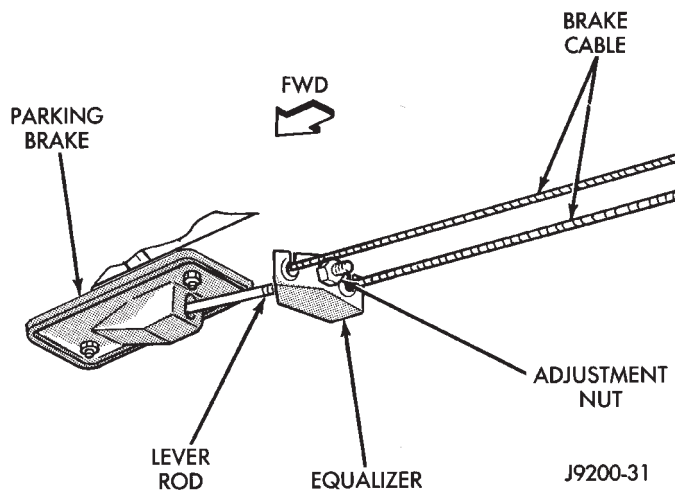

Fig. 9 Park Brake Equalizer (XJ)—Typical
- (1) Engage the parking brake pedal and then release it.
- (2) Test it for smooth operation and vehicle-holding capability.
- (3) Inspect the parking brake cables.
- (4) With the parking brake released, the rear wheels should rotate without restriction. Adjust the parking brake cable tension, if necessary (Fig. 9 and 10).
- (5) Repair any parking brake malfunctions.